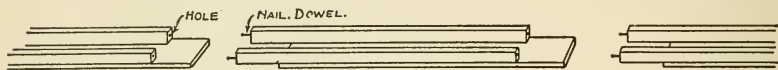

FIG. 357. — The Tracks.
A good substitute for the tin tracks ordinarily sold in shops for toy railways will be found in those shown in Fig. 357. These
**Tracks** consist of quarter-inch strips mounted upon pieces of cardboard. Make a small gimlet-hole in one end of each stick, and drive a short finishing nail in the opposite end (see Fig. 357). Cut the cardboard strips